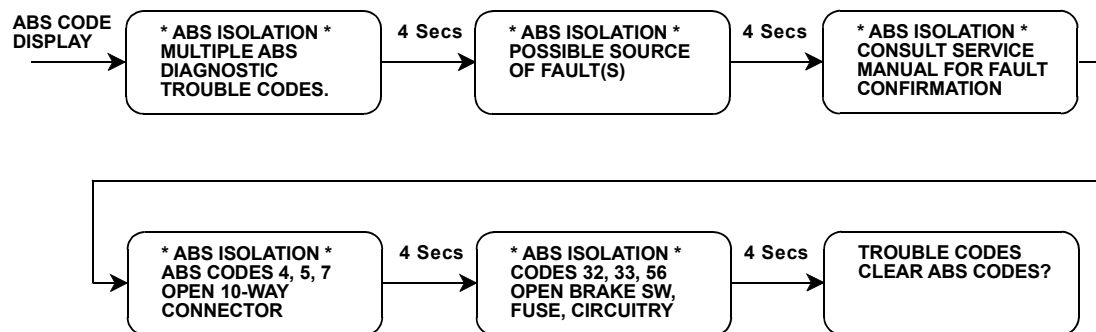

FIGURE 5-43. ABS Fault Isolation Example (Delco Moraine ABS III)
3. The scantool performs analysis on the codes which are present in the ABS controller and displays information on the most likely cause of the codes. This information is displayed immediately after the ABS code display has been completed. See Figure 5-43.